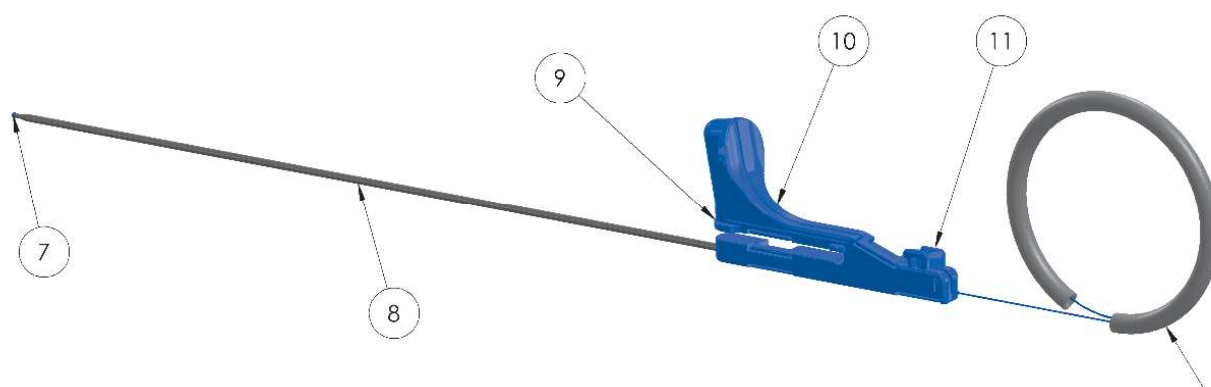

Figure 4: i-stitch Loading Unit
1.	Remove the i-stitch loading unit (Figure 4) from the sterile packaging.
6.	Push the i-stitch loading unit (Figure 4) forward until the needle slider [10] is at the stop position. NOTE: At this time the blunt suture tip [7] and the cannulated needle [8] are completely covered by the needle opening [2].